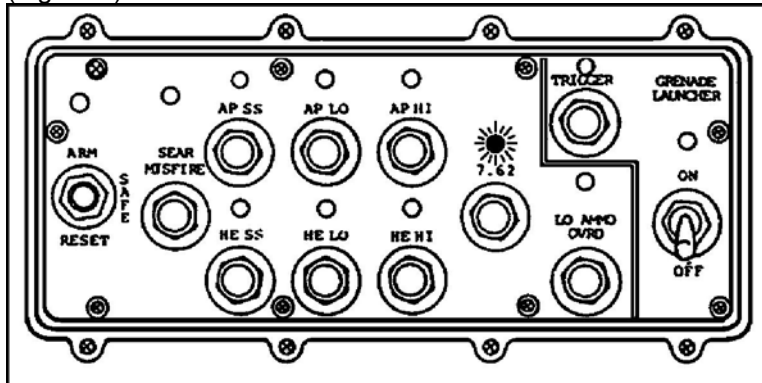

Figure 1. 7.62 indicator and button.
1. The gunner presses the 7.62-mm button on the weapon control box. He checks that the indicator light comes on (Figure 1).